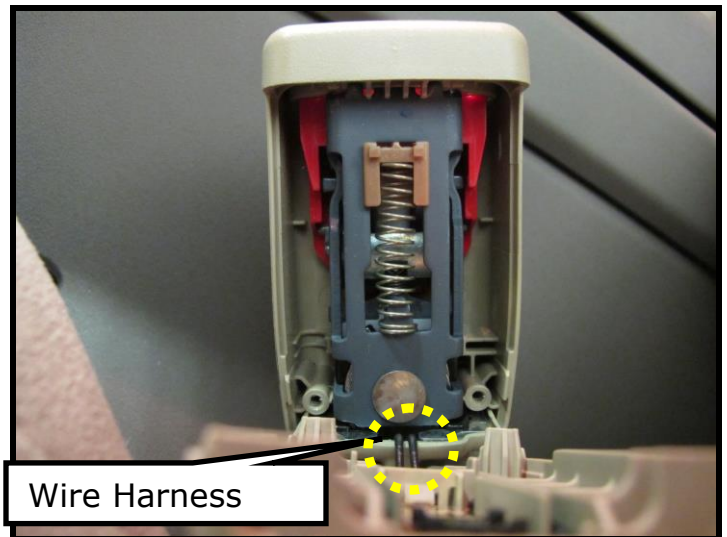

Figure 4
- Pivot the top of the buckle cover out leaving the bottom still touching the buckle due to the wire harness inside as shown in Figure 4.